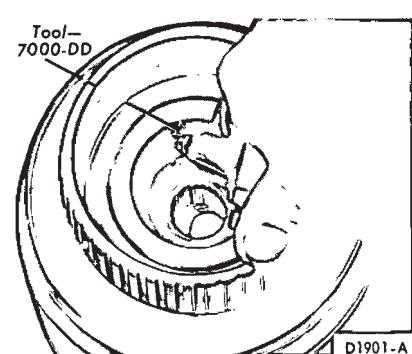

FIG. 54—Removing Forward Clutch Piston
4. Apply air pressure to the clutch apply passage in the cylinder (Fig. 54) to remove the piston.